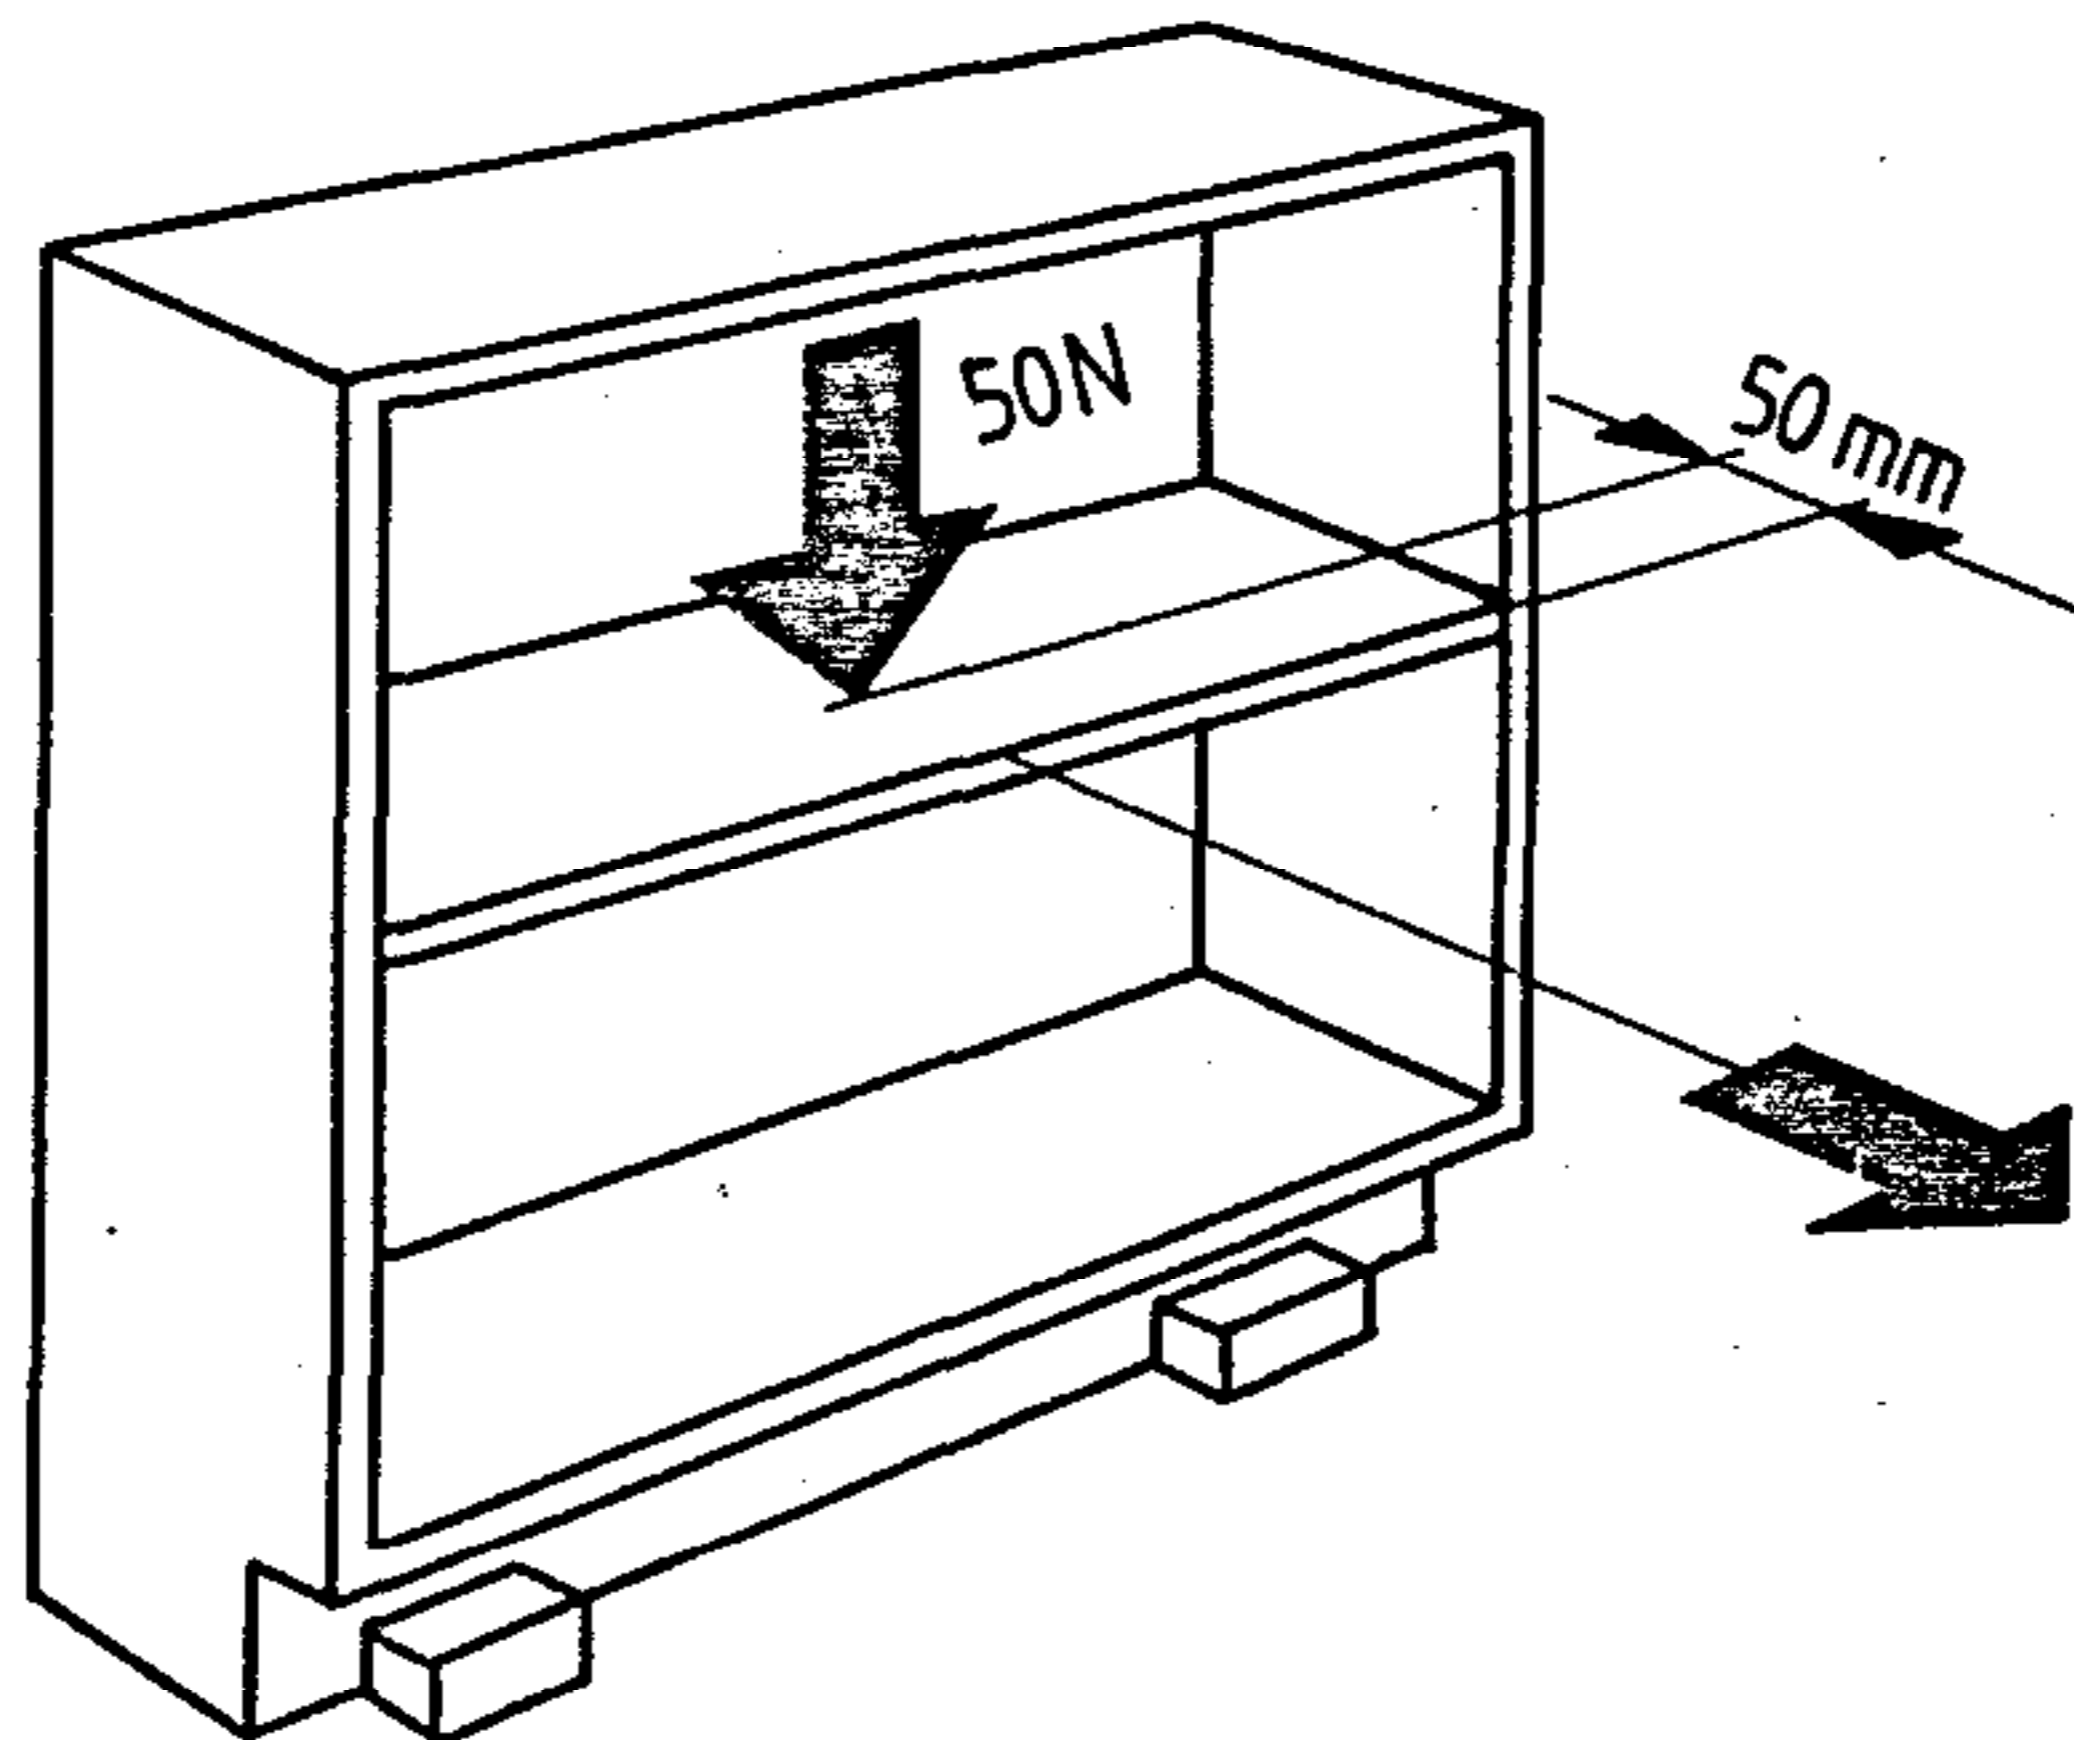

Figure 3 — Application of vertical and horizontal forces on the shelf
- on flaps, leaves and shelves: over the centre and 50 mm from outer edge (see figure 3).
6 Stability with loads on open shelf (vertical and horizontal forces) (see figure 3)